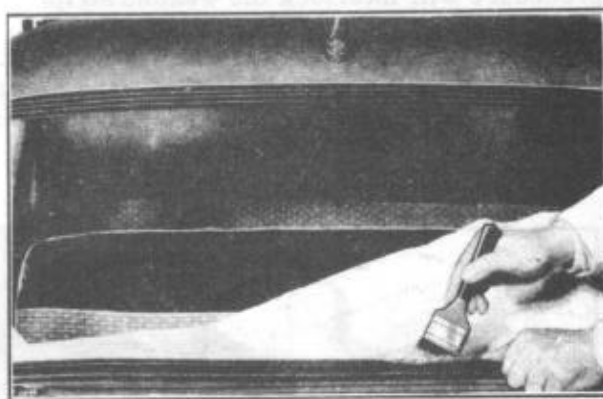

FIGURE 68
**NOTE:** Before installing the new glass, brush the weatherstrip thoroughly with a solution of liquid soap and water. Figure 68.